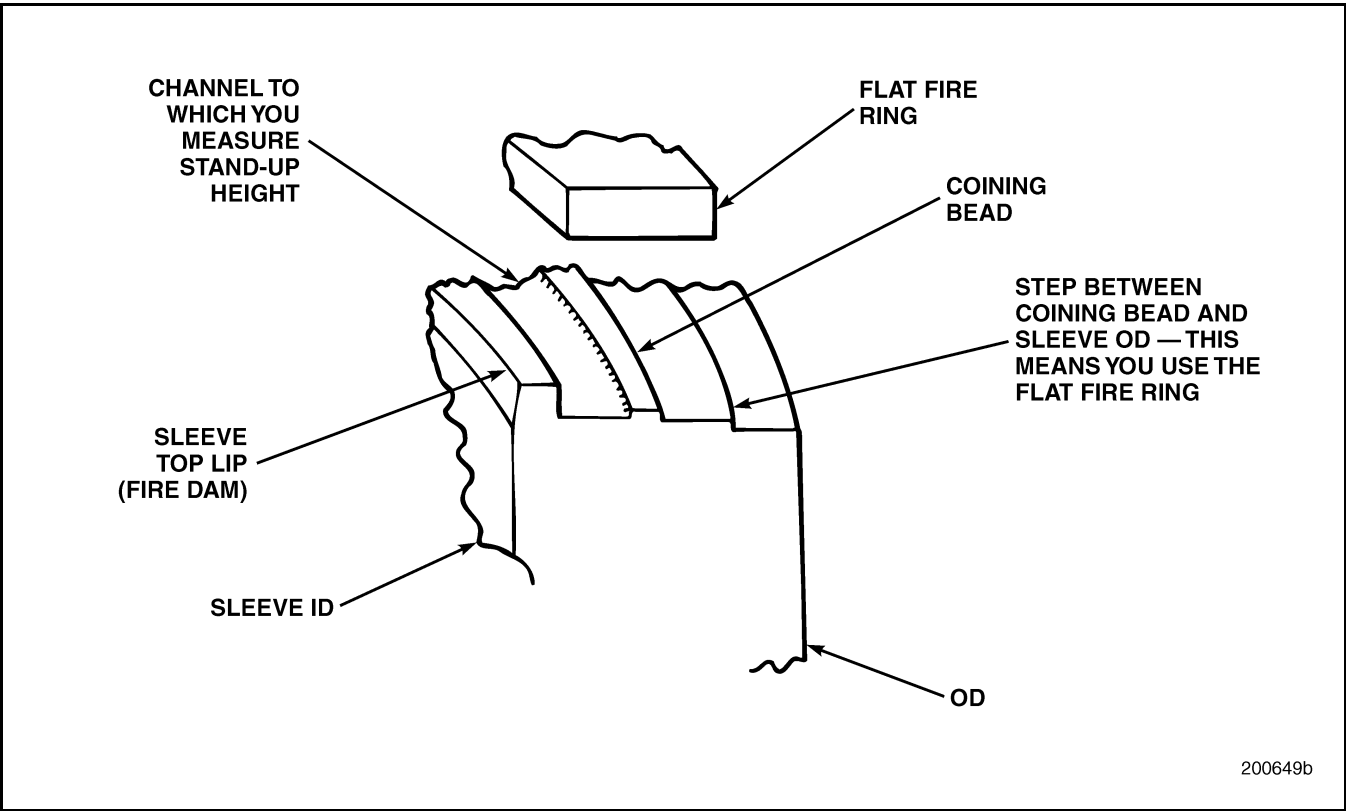

Figure 211 — Cylinder Sleeve/Fire Ring Configuration
6. After the cylinder sleeve is fully seated, use depth gauge J 26948, or equivalent, to check the flange height-above-deck dimensions. The specified dimension is 0.023–0.029 inch (0.584–0.737 mm). The measurement should be taken in the channel between the sleeve top lip (fire dam) and the coining bead. Refer to Figure 211.